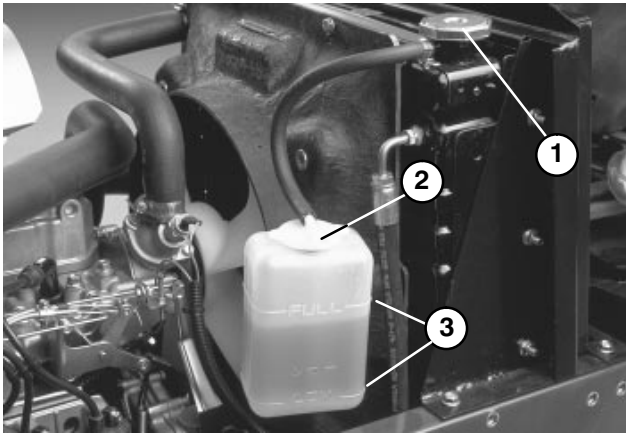

Figure 13
The cooling system is filled with a 50/50 solution of water and permanent ethylene glycol anti-freeze. Check level of coolant at beginning of each day (Fig. 13) before starting the engine. Capacity of cooling system is approximately 6 quarts (5.7 l).
1. Carefully remove radiator cap and the expansion tank cap (Fig. 13).